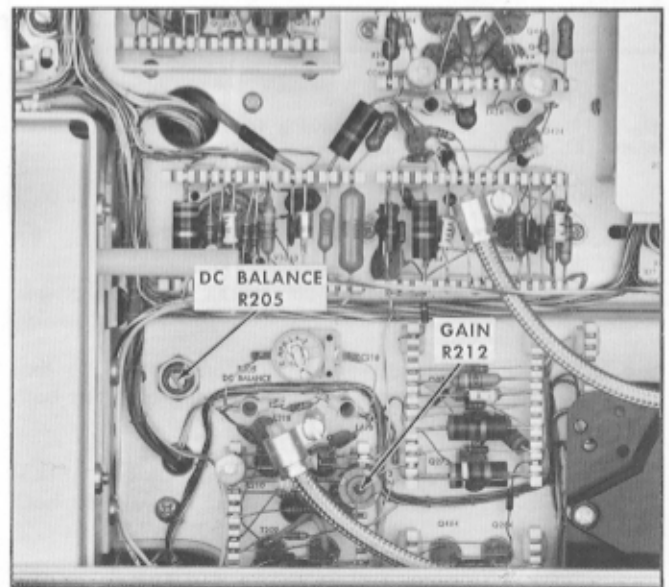

Fig. 6-21. Vertical amplifier DC balance and gain adjustments (right side view).
- o. Adjust GAIN R212 (see Fig. 6-21) for a display amplitude of exactly 4 cm.